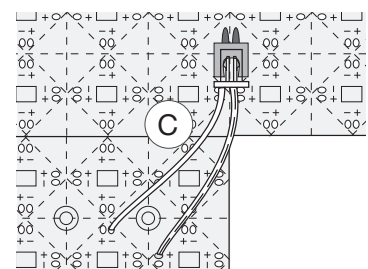

Figure 9
Soldering directly to the copper pads on the sheet provides another method of power input. Figure 9 shows the use of a longer sheet-to-sheet connection wire (C) with one connector cut off as a means to connect power from a connection block on one LED Sheet to another LED Sheet that has none available. Carefully solder the grey striped wire to a positive (+) copper pad and the solid white wire to a negative (-) copper pad. See also Soldering Advisory on page 11.